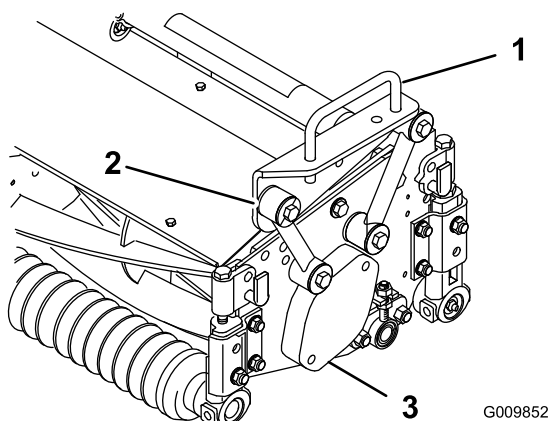
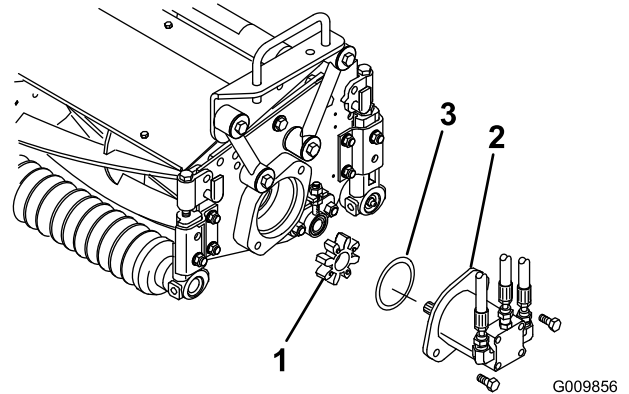

Figure 4
Figure 8
2. Position a carrier frame onto each cutting unit, aligning the mounting holes with the mounting links (Figure 4).
as shown in Figure 4. Position a washer on each side of the link when mounting. Torque to 31 ft-lb (42 N-m).
2. Remove the bearing housing cover (Figure 4) from the inside end of the right-hand cutting unit. Install the cover and gasket (supplied with the cutting unit) on the outside end. Locate the spider coupling (Figure 8) shipped in the bearing housing.
3. Insert the O-ring (supplied with the cutting unit) on the flange of the drive motor (Figure 8).
4. Mount the motor and the spider coupling to the drive end of the cutting unit and secure them with 2 bolts provided with the cutting unit (Figure 8).